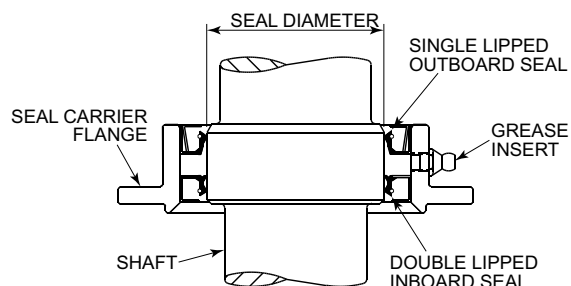

Figure 6.2.5 Placement of Seal Carrier Assembly onto Shaft
4. When the seal carrier is piloted on the shaft pilot, seat the seal carrier by slowly pressing down on the flange; reference **Figure 6.2.5**.